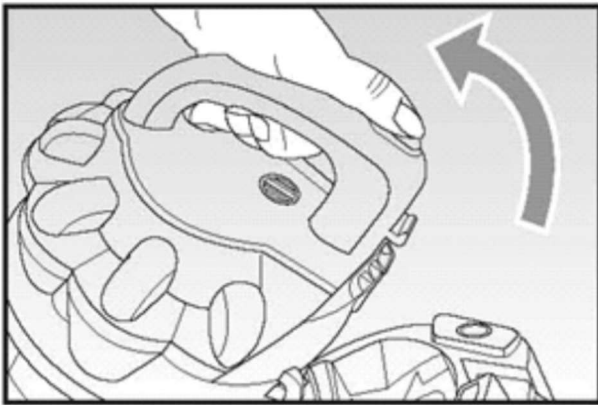

Fig. 6
- Press the release button (E) and at the same time take out the dust container (A) using the handle (G) (Fig. 6).